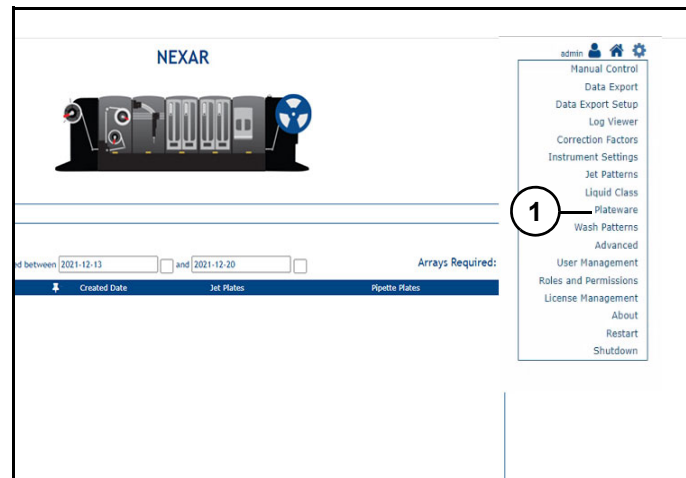

Figure 25
Plateware (1) (Figure 25): Opens plateware page.